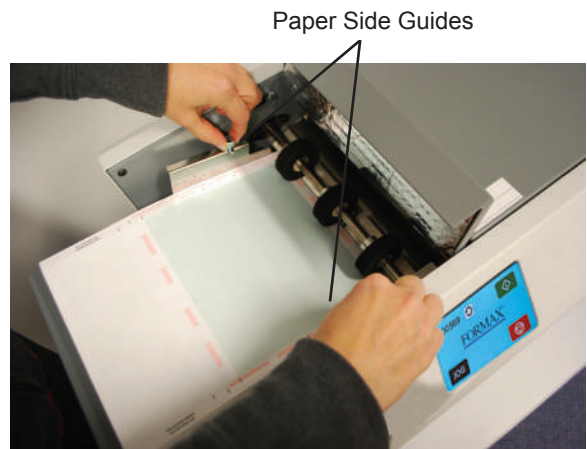

Fig. 8a
5. Set the paper side guides for the forms being used and lock in position (Fig 8a).